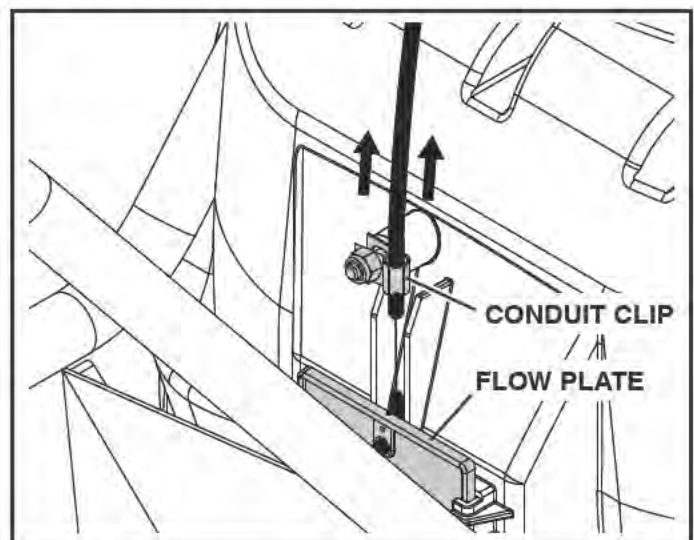

FIGURE 11
3. Loosen the nut that fastens the conduit clip to the bottom of the spreader. See figure 11.
4. Spread the ends of the clip until the cable can slide back and forth. See figure 11.
5. Hold the conduit clip in alignment and pull on the cable until the flow plate moves just slightly, then tighten the nut while holding the cable and cable clip in place. See figure 11.